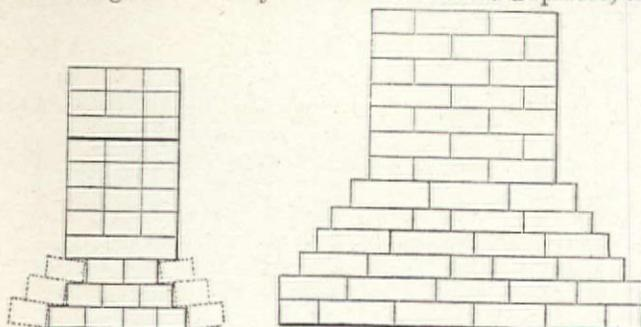
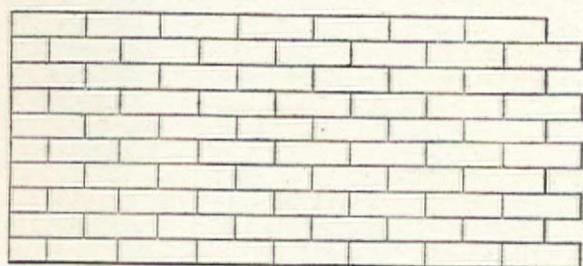
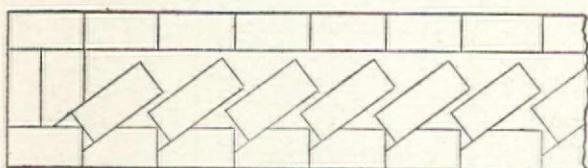
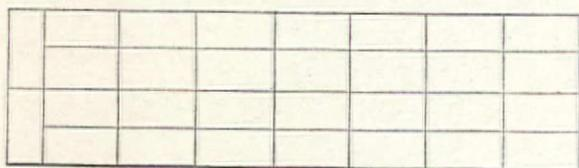

FIG. 1. DISPLACED BRICK. FIG. 2. FOOTINGS FOR HEAVY WALLS.
FIG. 3.
FIG. 4.
FIG. 5.
Then there comes the man who orders concrete blocks made for his building in representation of common stones, as at the left side of Fig. 4. This is not by any means an exceptional order. Some of the concrete block makers refuse these bothersome orders on the plea that they are too busy with regular work, or that they do not have the proper moulds for shaping the odd patterns. Other manufacturers, desiring to build up their business and to accommodate, undertake the work, although there may be little money in the job. The new moulds have to be made, and this costs money and consumes time. However, from what I could learn by calling at a number of concrete block works, the majority of proprietors were willing to furnish whatever styles of blocks they could make, even though the margin of profit might not be large. As a whole the profits run high and are liberal. The cement block maker, whether he is turning out the regular run of blocks or special patterns, can always depend upon good prices and fair profits.
cated by Fig. 1. Where, however, they are laid headers, three-fourths of their length is bound into the wall, and they can scarcely fail, except it be by reason of the bricks themselves splitting into
The diagrams, Figs. 3, 4 and 5, show the plans and elevations of an external wall in running bond. Fig. 4 shows plan or wall
1.25 tons per superficial foot, then  $\frac{175}{1.25} = 140$  sq. ft. area required at base of foundation, and  $\sqrt{140} = 11.83$ , say 12 ft. width of side, with twelve rolled-steel joists. The stanchion will be approximately as Fig. 1, composed of two 12-in. by 3 1/2-in. by 32-lb. channels, and two 14-in. by 1/2-in. plates, with 3/4-in. rivets, 4-in. pitch. The sectional area will be about 33 sq. in. and the stress  $\frac{175}{33} = 5.3$  tons per square inch. The base may be built up of plate, gussets, and angles as for resting on stone or concrete, but a more usual method is to put a cast-steel base under the stanchion, as in plan (Fig. 2) and section (Fig. 3), allowing, say, 20 tons per square foot.  $\frac{175}{20} = 8.75$ ,  $\sqrt{8.75} =$  say 3-ft. side of cast-steel base. Placing the first layer of joists at 9-in. centers, there will be four required in the top row, projecting midway from the steel base to the outside of foundation, giving a length of  $\frac{12 - 3}{2} + 3 = 7.5$  ft. The number of joists in the middle layer  $= \frac{4 + 12}{2} = 8$ . Then the plan of the foundation will be as Fig. 4, and section as Fig. 5. The next step will be to calculate the size of the rolled joists. Beginning with the lower ones, the distributed
Fig. 1 shows the four elevations of the roof lettered to correspond to the same pieces on the plan Fig. 2. (The valleys cannot be seen in the elevations.)
It will be seen at Fig. 1 that the pitch of this roof is 10 inch rise to the foot run (except the roof over the front porch, which is 5 inch rise to the foot run); the common run at the widest is seen to be 15 feet, half of 30 feet, the main ridge is therefore 15x10=150 inches = 12 feet 6 inches high above the plates. Ridge R' is 25 feet ÷ 2 = 12 feet 6 inches x 10 = 125 inches = 10 feet 5 inches high above plates. Ridge R is 22 feet ÷ 2 = 11 feet 0 inches x 10 = 110 inches = 9 feet 2 inches high above plates. Ridge L is 13 feet ÷ 2 = 6 feet 6 inches x 10 = 65 inches = 5 feet 5 inches high above plates. (See dimensions given on Fig. 1.)